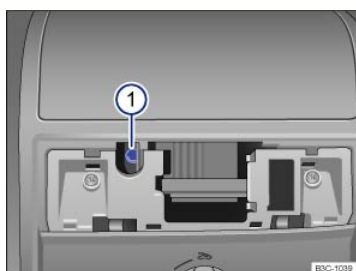

Fig. 188 Hexagonal head screw for closing the power sunroof.
- Insert a commercially available 1/6 in (4 mm) Allen wrench¹⁾ into the hexagonal head screw ⇒ Fig. 188①.